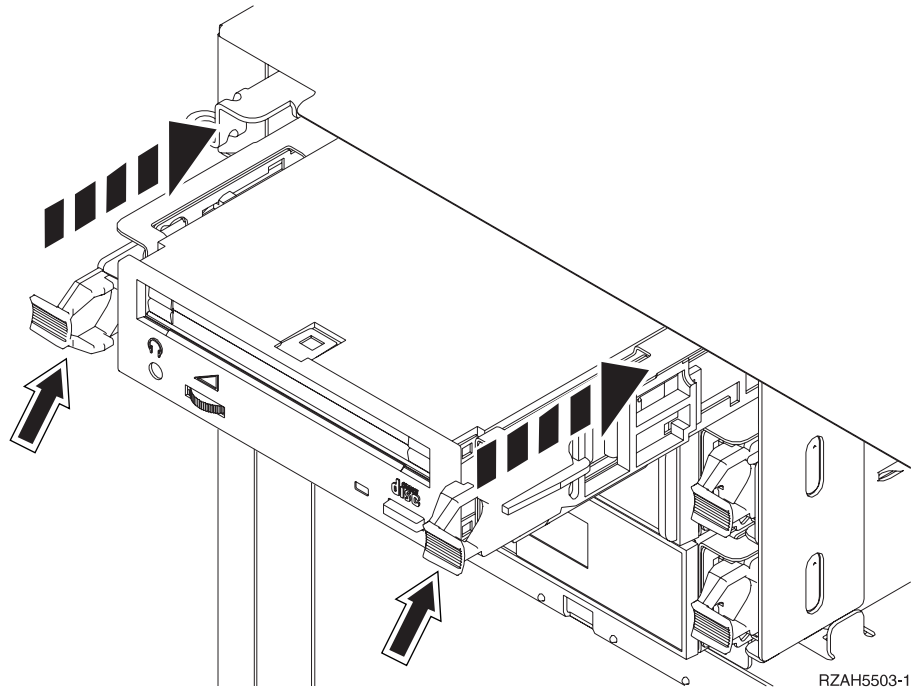

Figure 6. Installing removable media device
- ___ 4. Refer to Figure 6 on page 13 and align the device with the position where you removed the filler bezel.